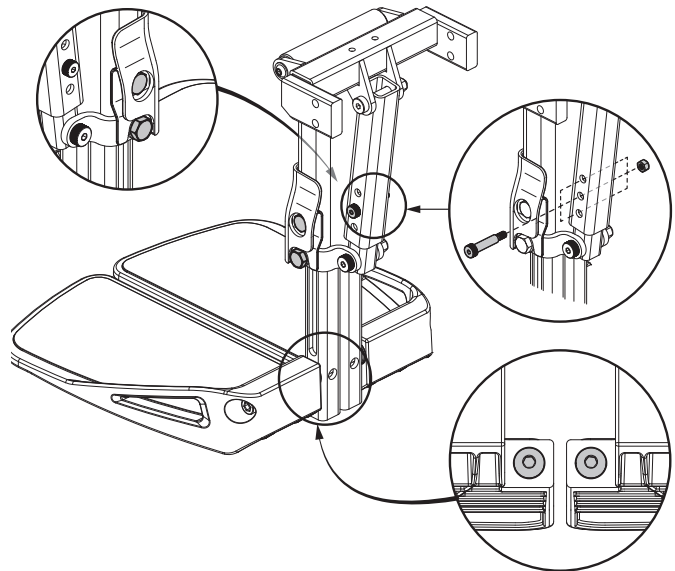

Figure 14. Foot Platform Adjustment
See figure 14.
1. Flip up the foot platform and locate the screw. **See figure 14.**